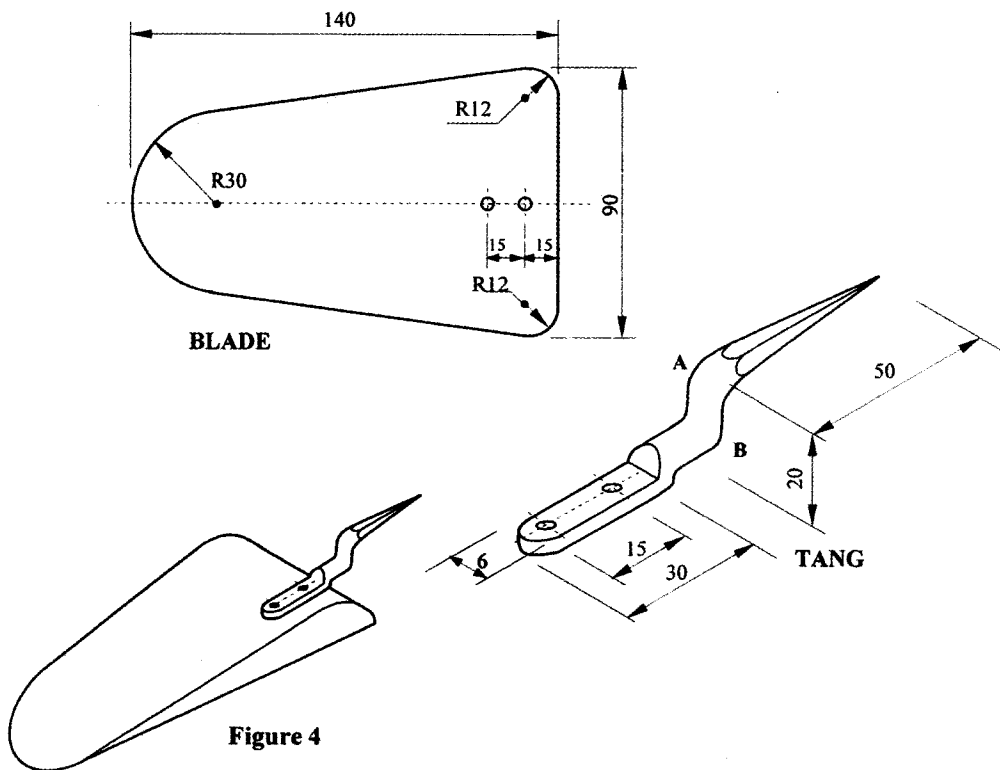

Figure 4
- 14 Figure 4 shows a garden trowel with a curved blade and a tang to be made from 1.6 mild steel sheet and 8.0 diameter mild steel rod respectively.